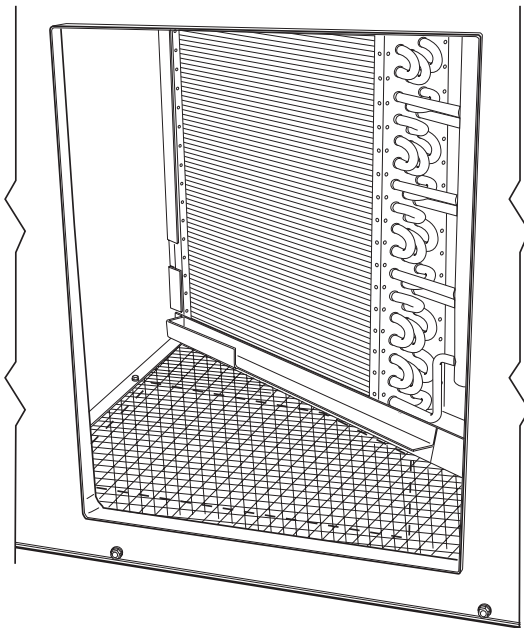

Fig. 13 — Lance Location for Vertical Duct Opening Cover
3. Locate lances in basepan insulation that are placed over the perimeter of the vertical duct opening cover (Fig. 13).